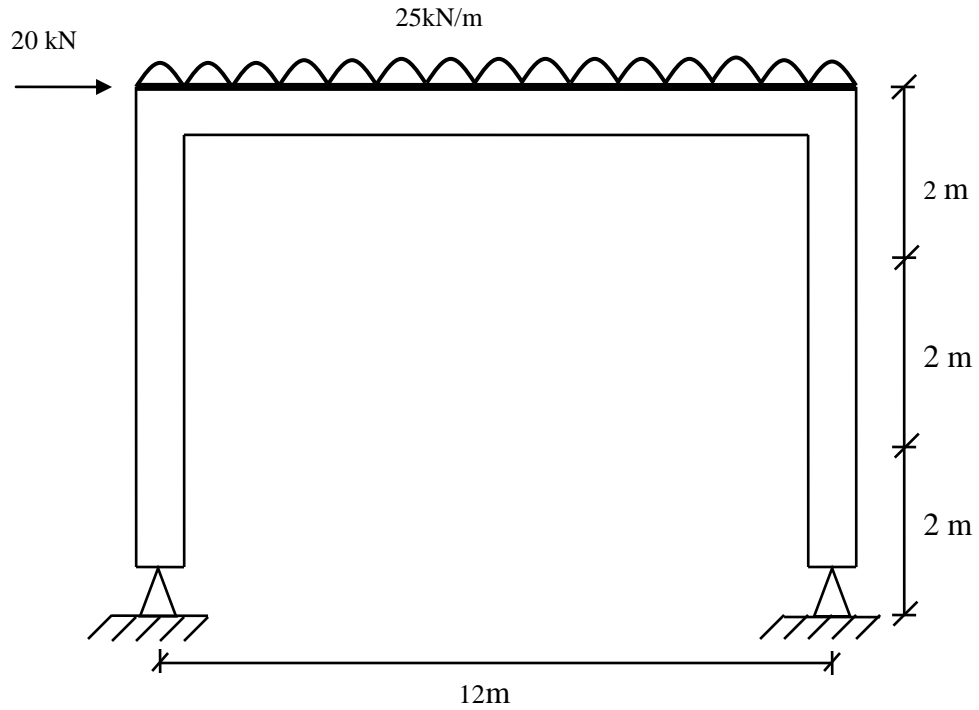

Fig. 1.0
1. Design the beam and the column of steel frame shown in Fig. 1.0. Total live and dead load is assumed as 25 kN/m and the lateral load due to wind is assumed as concentrated at the knee as 20 kN. Columns are braced about the weak axis at 2 m intervals. It may be assumed that the plastic moment capacity of beam is 4 times that of columns.